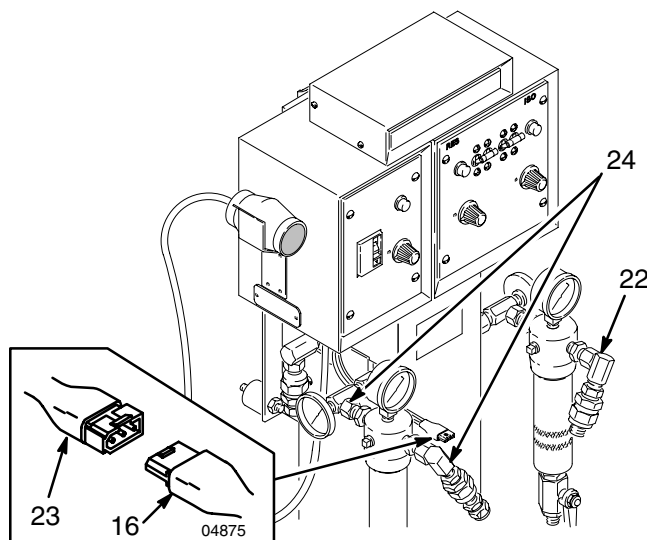

Fig. 4
- Do not install any fluid shutoff device as the fluid outlet of either heater or filter! See Ref 24, Fig. 4.